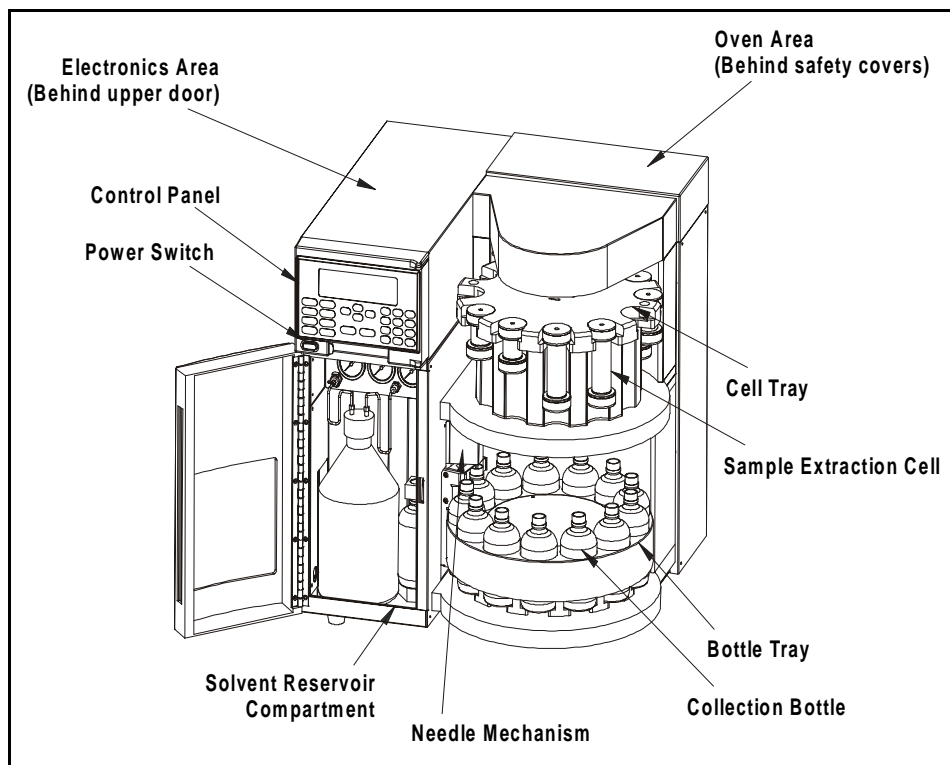
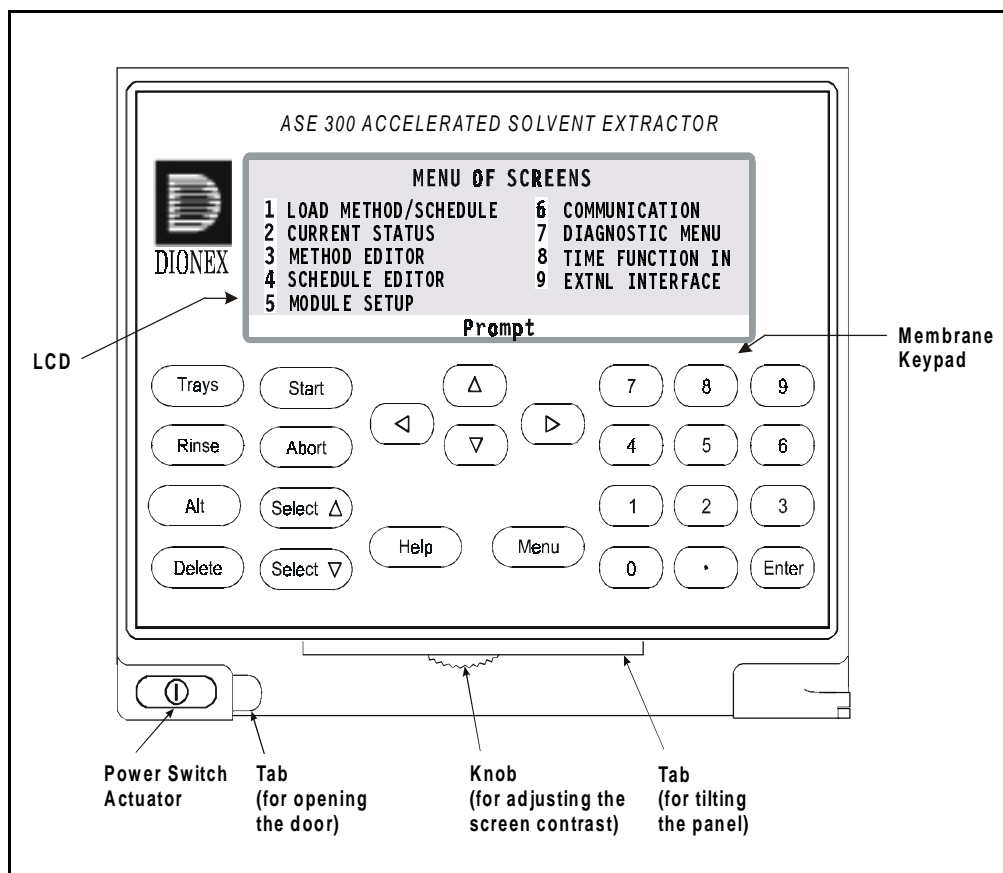
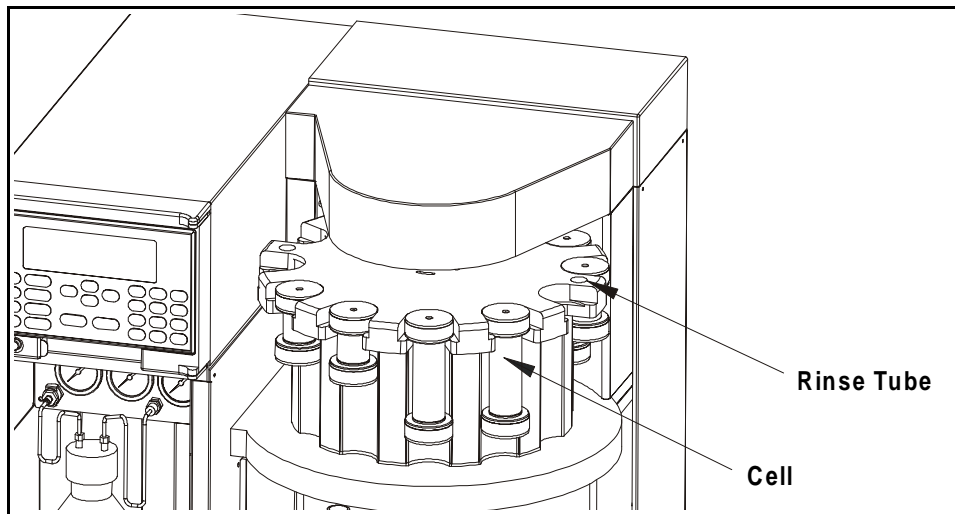

Figure 2-1. ASE 300 Operating Features
Figure 2-2. ASE 300 Control Panel
Figure 2-3. Rinse Tubes
Figure 2-1 illustrates the main operating features of the ASE 300.
The control panel on the upper door of the ASE 300 contains the liquid crystal display (LCD) and the membrane keypad (see Figure 2-2). The upper door provides access to the ASE 300 electronics.
- The screen contrast can be adjusted with the knurled knob in the recess below the keypad (see Figure 2-2).
- The control panel can be tilted to four positions. To tilt the panel, support the upper door of the enclosure at the left side (to prevent it from opening) and lift firmly on the tab in the middle of the recess below the keypad (see Figure 2-2). Push on the tab to return the panel to its vertical position.
Rinse tubes are small-diameter metal tubes that fit into the two rinse positions in the cell tray (see Figure 2-3). During a rinse cycle, the tray rotates to the nearest rinse position that ensures that the heated cells remain behind the safety cover over the oven (see Figure 2-1). Solvent passes directly through the rinse tube during the cycle.
The compartment behind the front lower door (see Figure 2-1) contains the solvent reservoir, waste bottle, and pressure gauges.
The ASE 300 electronics area is located behind the upper front door (see Figure 2-1). To open the door, pull on the tab located to the right of the main power actuator (see Figure 2-2).